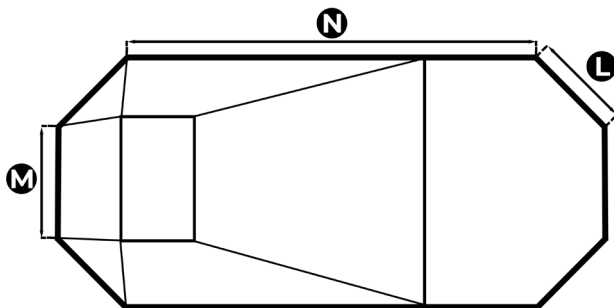

FIGURE 4
Grecian pools require additional dimensions around the perimeter of the pool. These include the end panel (M), the straight wall (N), and the corner panel(s) (L). Verify that each corner panel measurement around the pool area equal. If they are not, please indicate that information in a drawing or on the MEASURING FORM. Refer to Figure 4.